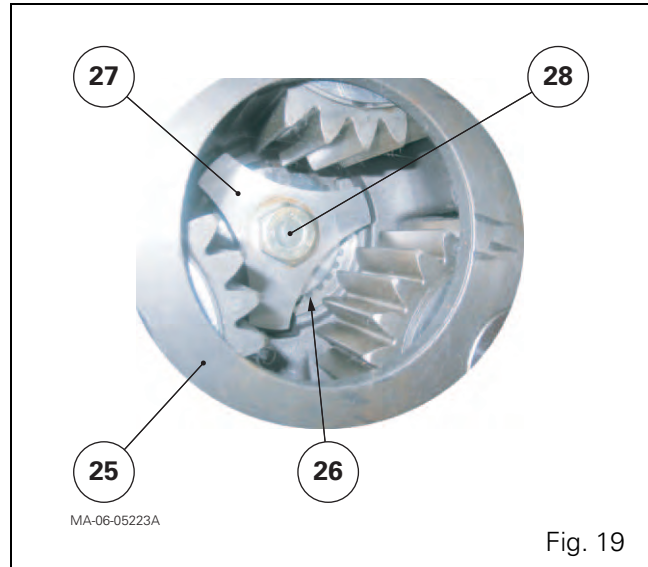

Fig. 19
- the brake plate (30) (see § C).
49. Immobilise the axle shaft (2) or the planet carrier (25).
50. Remove (Fig. 19):
- the M24 screw (28);
- the tripod washer (27);
- the shim(s) (26);
- the planet carrier (25);
- the ring gear (15) (see § C).